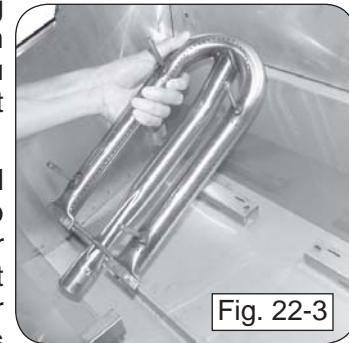

Fig. 22-3
2. Slightly pinch and remove the burner clip found on the rear center of the burner. Next lift the rear of the burner out of the anchor pegs, move the burner toward the back of the grill to clear the gas inlet, and set it aside (Fig. 22-3).